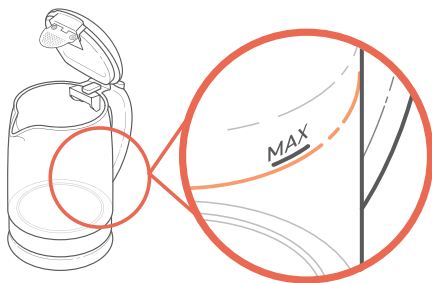

Figure 2.1
2. Fill the kettle to the desired level. **Do not** fill above the "**MAX**" line. [Figure 2.1]